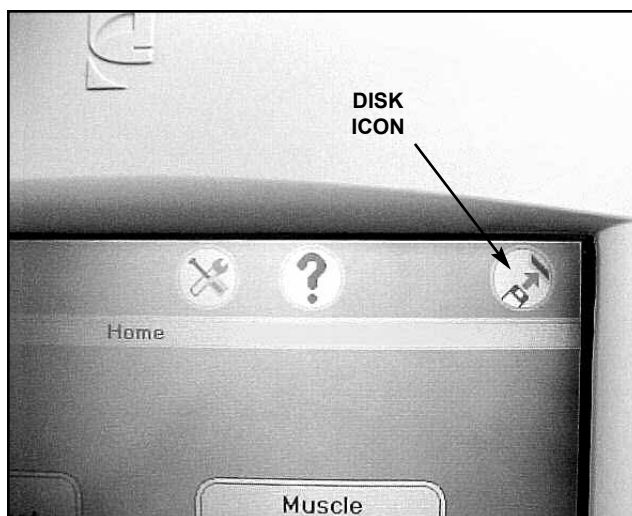

FIGURE 5.32
1. With unit on, press the "Disk" icon in the top R.H. corner on the "Home" screen. See Figure 5.32.
4. Press "Disk" icon in the top R.H. corner of the "Home" screen. See Figure 5.32.